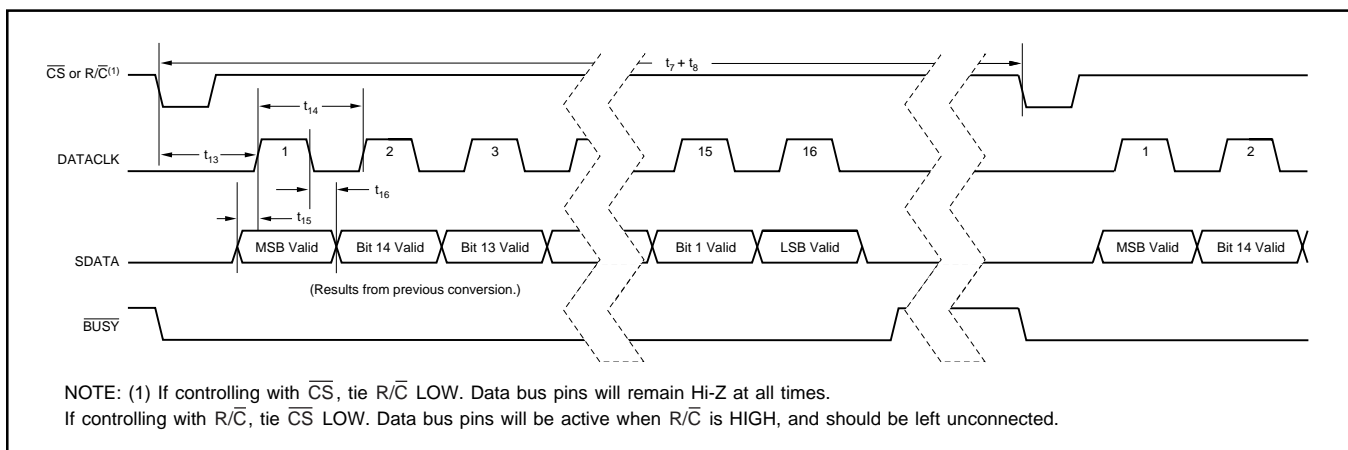

FIGURE 4. Serial Data Timing Using Internal Data Clock (TAG tied LOW).
NOTE: (1) See Figures 4, 5, and 6 for constraints on data valid from conversion "n-1".
To use the internal data clock, tie EXT/INT (pin 8) LOW. The combination of R/C (pin 22) and C_S (pin 23) LOW will initiate conversion 'n' and activate the internal data clock (typically 900kHz clock rate). The ADS7807 will output 16 bits of valid data, MSB first, from conversion 'n-1' on SDATA (pin 19), synchronized to 16 clock pulses output on DATACLK (pin 18). The data will be valid on both the rising and falling edges of the internal data clock. The rising edge of BUSY (pin 24) can be used to latch the data. After the 16th clock pulse, DATACLK will remain LOW until the next conversion is initiated, while SDATA will go to whatever logic level was input on TAG (pin 20) during the first clock pulse. Refer to Table VI and Figure 4.